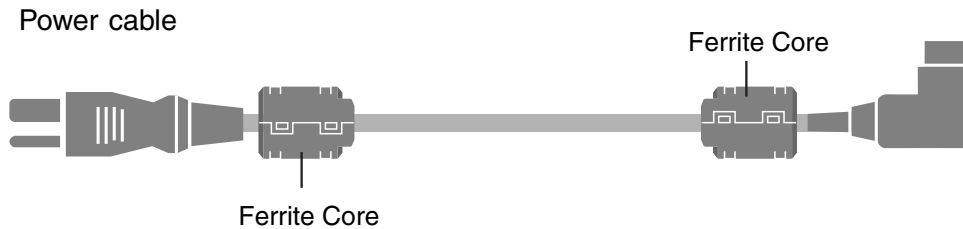

Figure 4-1. Attaching the Ferrite Cores to the Power Cable
2. Attach the two ferrite cores supplied with the display to each end of the AC power cable as shown in Figure 4-1. Doing so will reduce radio frequency interference (RFI) emissions to a level that conforms to FCC regulations. Use the supplied plastic bands to secure the cores in place.